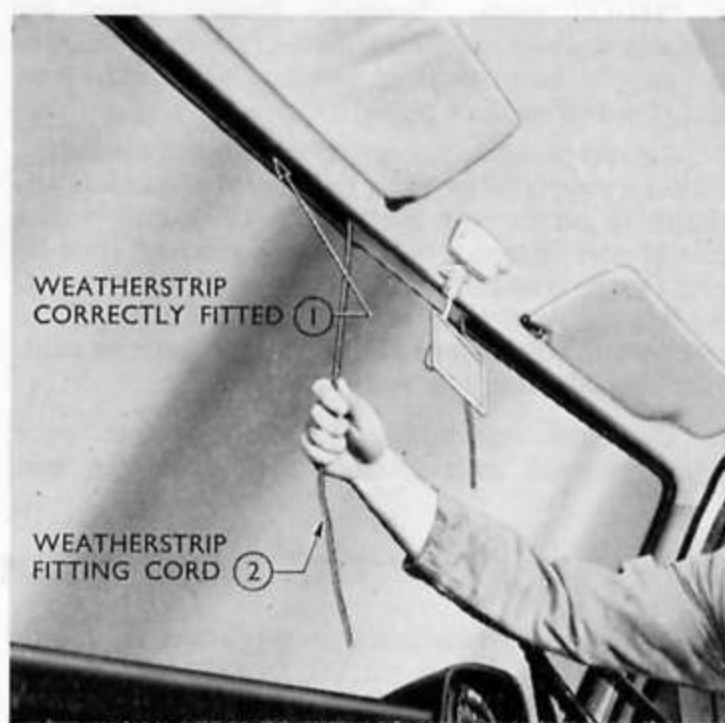

Fig. 18
7. Pull the cord towards the centre of the glass from the inside of the vehicle (see Fig. 18) and remove each piece of masking tape as the weatherstrip is positioned.